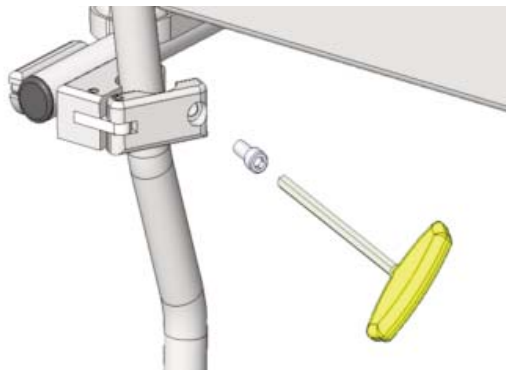

Figure 8
**Cantilever Arms:** If desired, the cantilever arms can be removed from the backrest assembly for storage during traveling. This can be accomplished by unscrewing the socket head cap screws that attach the arms to the backrest posts using the 5/32" Allen wrench. Then remove the arm assemblies from the posts and re-insert the socket head cap screws into the arm assemblies, so they are not lost. To re-install the cantilever arms, simply follow the steps above in reverse (Refer to Figure 8).